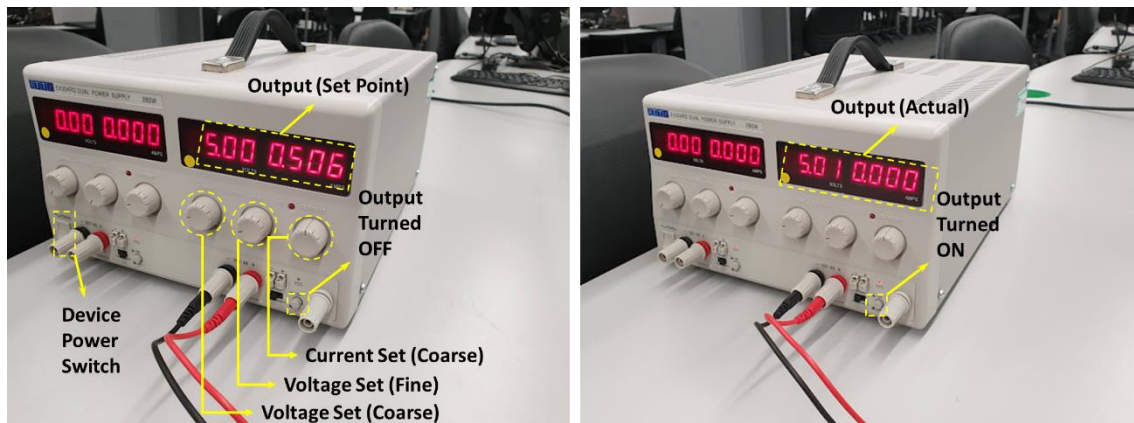

Figure 11 Using the Power Supply Device
2. Switch the PSU on and ensure the ON/OFF button is in OFF. When it is OFF, the screen displays the set-point voltage and current limits (see Figure 11).